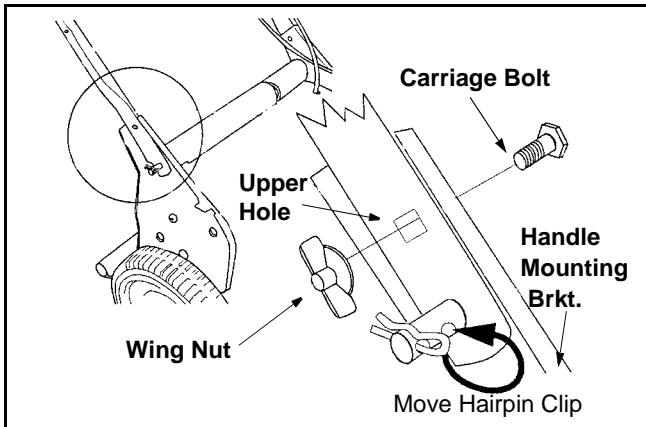

Figure 4
- Remove the hairpin clips from the outer hole in the weld pins on the handle bracket assemblies. Using a pair of pliers, squeeze one leg of the lower handle against the handle bracket assemblies. Insert the hairpin clip into the inner hole on the weld pin. Repeat on other side. See Figure 4.
- After you have moved the hairpin clip, install the carriage bolt, (carriage bolt must go to the inside of handle) included in the hardware pack, in the upper hole on the handle mounting bracket. Secure with one plastic wing nut, also included in the hardware pack. See Figure 4.Repeat process on other side.